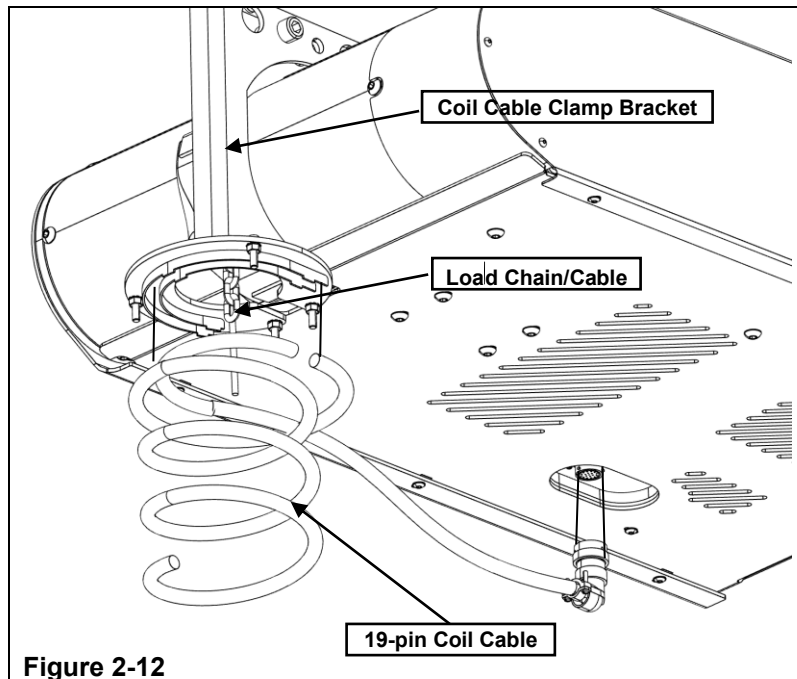

Figure 2-12
- 3) Connect the 19-pin connector to the bottom of the Servo Hoist. (See Figure 2-12)